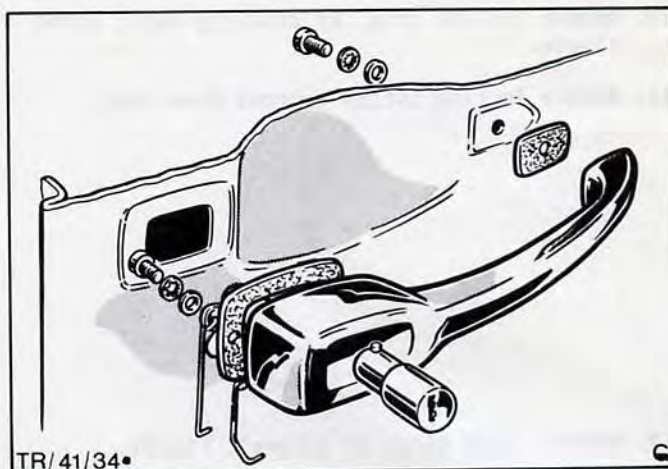

Fig.102. Fit outside door handle.
19. Screw on outside door handle, Fig.102.